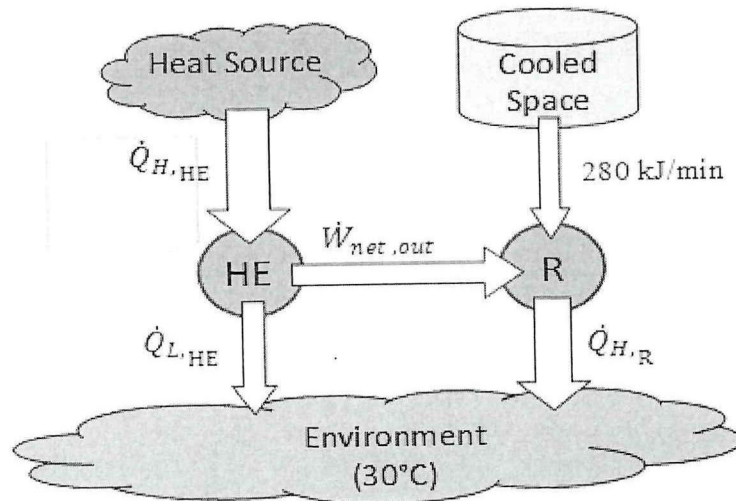

FIGURE Q6(c)
- (c) A Carnot heat engine receives heat from a reservoir at 900°C at a rate of 700 kJ/min and rejects the waste heat to the ambient air at 27°C as shown in **Figure Q6(c)**. The entire work output of the heat engine are used to drive a Carnot refrigerator that removes heat from the refrigerated space at -5°C and transfers it to the same ambient air at 27°C . Determine